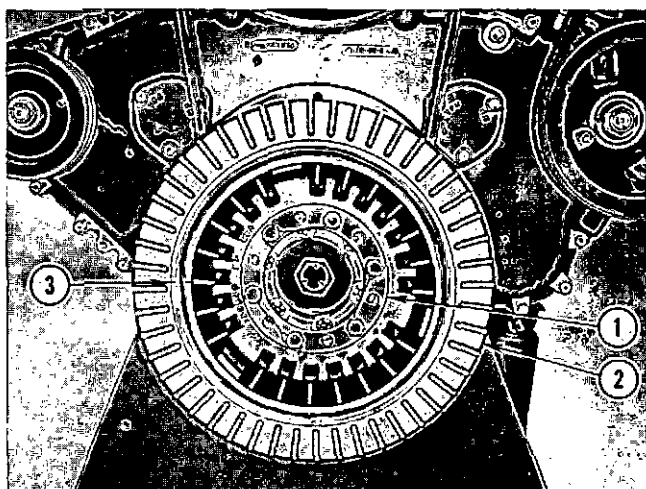

Fig. 5-42, V41932. Vibration damper alignment marks
Damper hub (1, Fig. 5-42) and inertia member (2) are stamped with an index mark (3) to permit detection of movement between the two components.